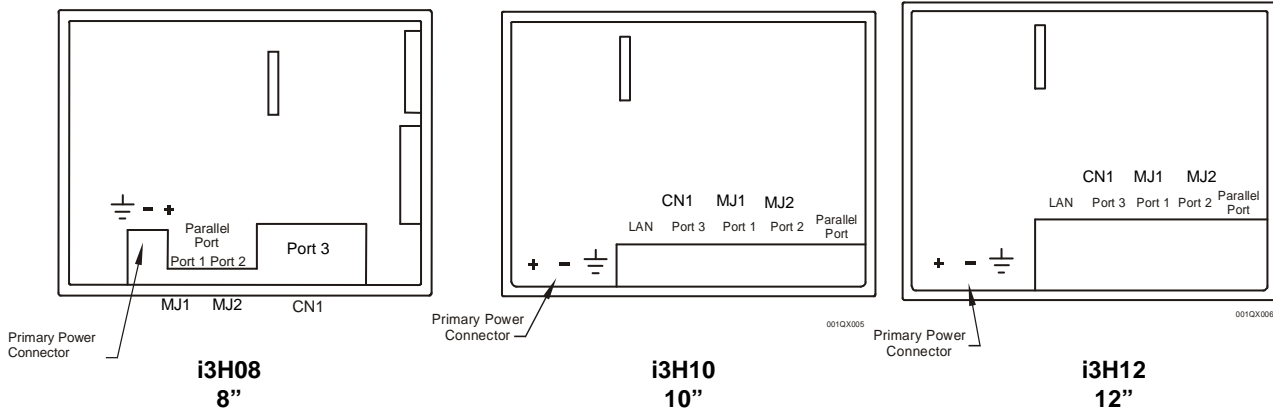

Figure 5 – I3H Base Ports and Connectors
2. Connect a suitable 24Vdc supply to the screw terminals as shown in Figure 5, and power up.